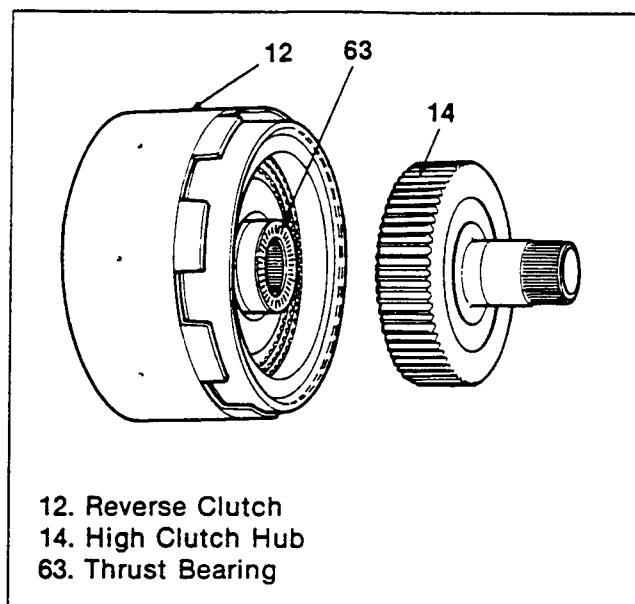

Figure 266. Clutch Pack Reassembly (2)
2. Attach the thrust bearing to the rear side of the high clutch (figure 266).